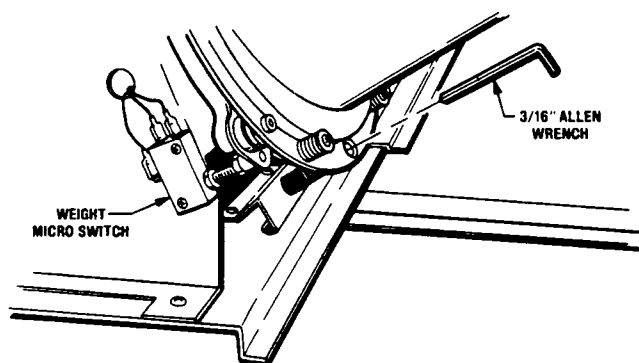

Figure 5-2
- 2) Turn the set screw, centered under the hopper bowl, clockwise with a 3/16" allen wrench until the micro switch plunger is in the up position. See Figure 5-2.